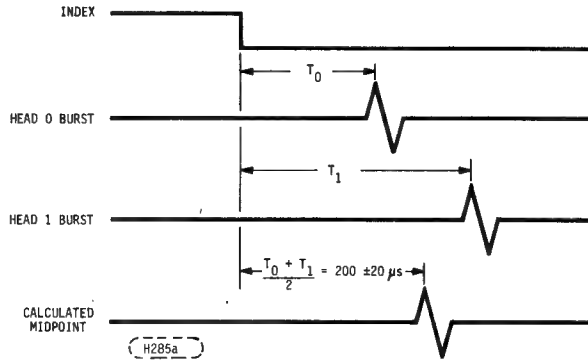

FIGURE 6-4A. INDEX TO BURST TIMING ADJUSTMENT
- f. Adjust the time from the leading edge of the Index pulse to the midpoint between the burst pulses of Head 0 and Head 1 at Track 34 until it measures $200 \pm 20 \mu s$, (refer to Figure 6-4a). To adjust the index to burst time turn index potentiometer on the Data Control PWA.